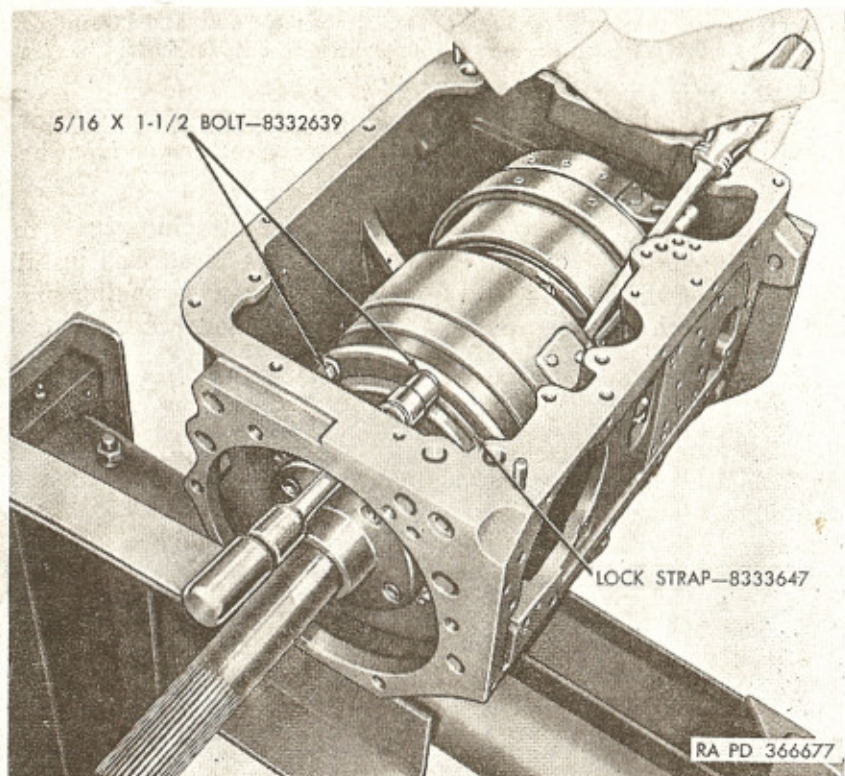

Figure 191. Tightening reverse center gear attaching bolts (303M).
f. Insert screwdriver into rear planetary unit drive pin hole and against transmission case to keep drum from turning; then tighten reverse center flange attaching bolts to 15 to 18 pound-feet torque (fig. 191).